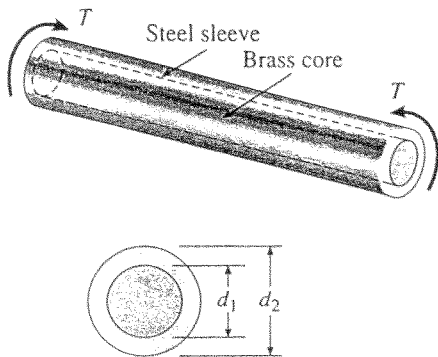

Fig. 3
3. The composite shaft shown in Fig. 3 is manufactured by shrink-fitting a steel sleeve over a brass core so that the two parts act as a single solid bar in torsion. The outer diameters of the two parts are $d_1 = 50$ mm for the brass core and $d_2 = 60$ mm for the steel sleeve. The shear moduli of elasticity are $G_b = 40$ GPa for the brass and $G_s = 80$ GPa for the steel. Assuming that the allowable shear stresses in the brass and steel are $\tau_b = 30$ MPa and $\tau_s = 50$ MPa, respectively. Determine the maximum permissible torque T_{\max} that may be applied to the shaft. (18%)